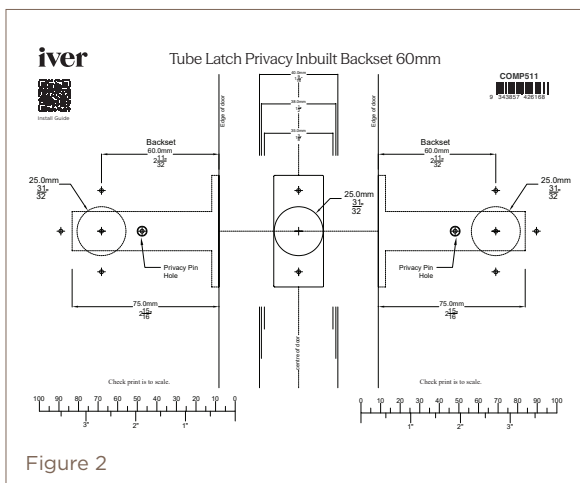

Figure 2
3. Fix template to door. Available online if required. Figure 2.